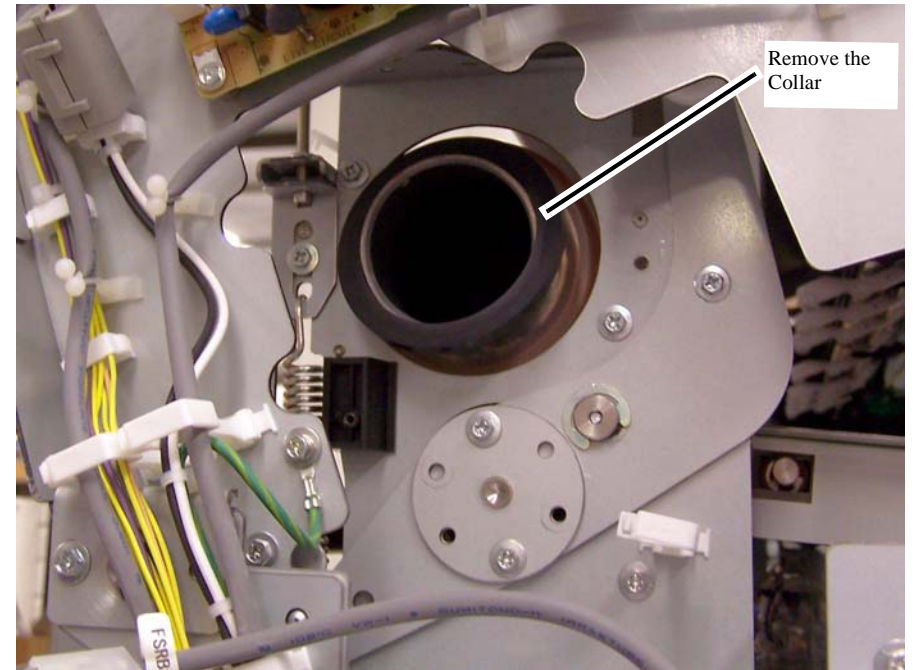

Figure 9 Removing the Collar (right end of Fuser Roll)
- d. Remove the Collar (Spacer) (Figure 9).
- b. Remove the Collar (Spacer). (The procedure is the same as for the left end; refer to Figure 9.)